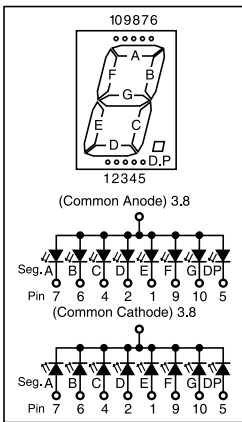

Fig. 55: 7-Segment LED display
**6. 7-Segment LED display:** Fig. 55 shows the standard arrangement of segment LEDs (for common-cathode and common-anode displays) and corresponding DIP pin numbers (spacing 2.54 mm). The spacing between the two rows of pins is a function of digit size.